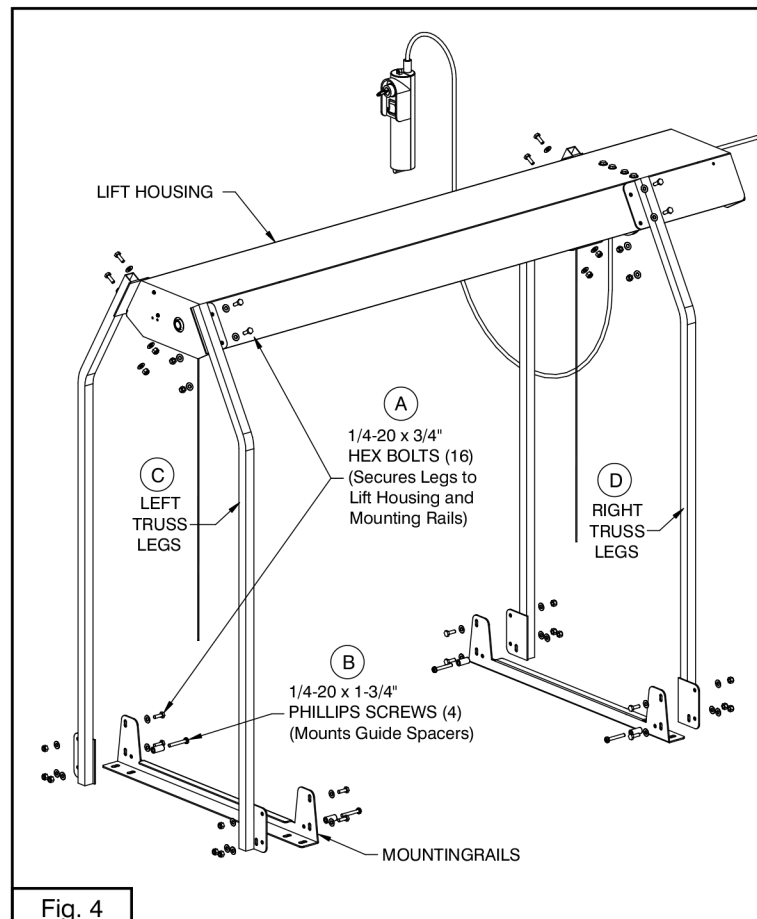
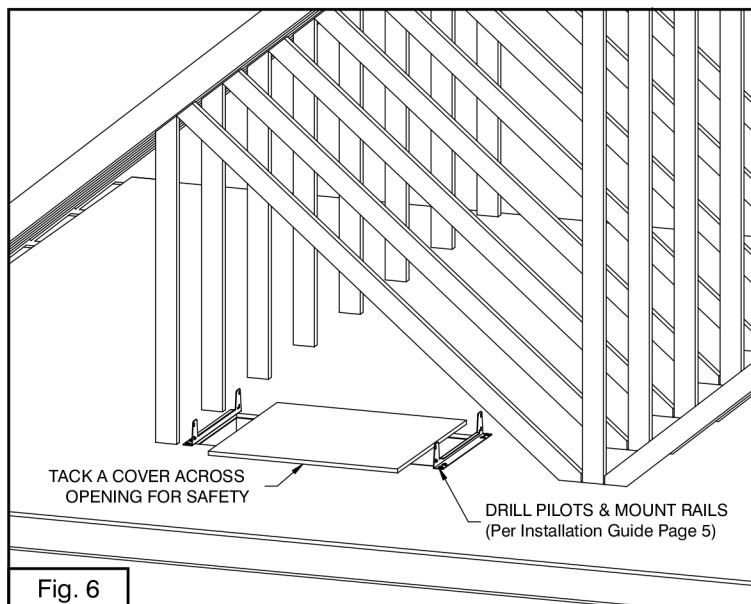

Fig. 4
Fig. 6
**4-2:** Locate and drill pilot holes around the opening as detailed on page 5, Fig. 4 of the Versa Lift Installation Guide and install the mounting rails on each end of the opening with lag screws and washers, as shown in Fig. 6 here and on page 14, Fig. 23 inset of the Versa Lift Installation Guide. Note that the truss legs are not attached to the mounting rails yet. Install the lag screws fully, but leave them loose so the rails can be adjusted later.
**4-3:** Install a plywood cover across the lift opening for additional safety while working in the close quarters created by truss construction (Fig. 6). This will reduce the chance of costly and dangerous accidents while installing the lifting head.
**2-2.** Install just one leg bolt in each leg flange in the lower hole and tighten (Fig. 8 and inset). See Fig. 4 on page 2 for correct leg flange orientations.
**2-8.** Install (8) hex bolts through the mounting rails and into the truss leg brackets exactly as shown in Fig. 4 on page 2. (The legs go outside of the mounting rails, while the bolts are inserted from inside rails). Don't tighten the bolts until after the lifting head has been leveled (see step 2-10 below).
**2-9.** Install the four guide spacers using the longer Phillips screws furnished. Refer to Fig. 4 on page 2 for the correct location and orientation for installing the spacers and hardware. Don't tighten the screws until after the lifting head has been leveled (see step 2-10 below).